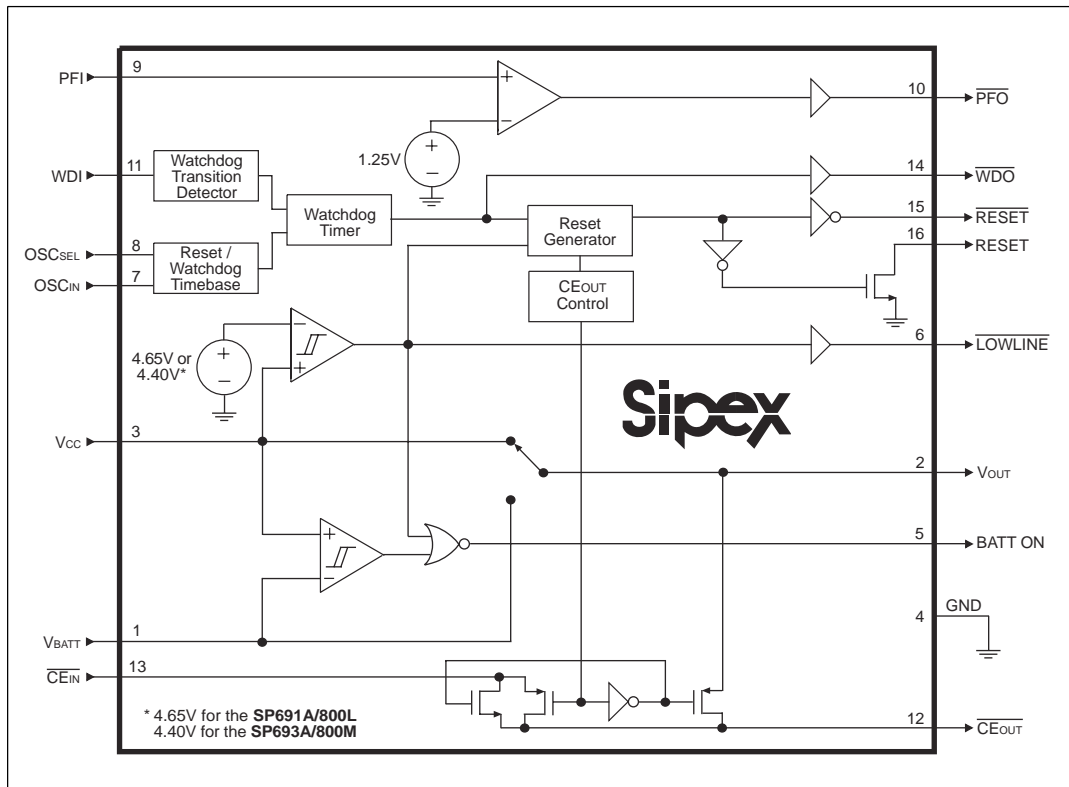

Figure 16. Internal Block Diagram of the SP691A/693A/800L/800M
The **SP691A/693A/800L/800M** devices provide internal gating of chip-enable (CE) signals, to prevent erroneous data from corrupting the CMOS RAM in the event of a power failure. During normal operation, the CE gate is enabled and passes all CE transitions. When reset is asserted, this path becomes disabled, preventing erroneous data from corrupting the CMOS RAM. The **SP691A/693A/800L/800M** devices use a series transmission gate from CEIN to CEOUT. Refer to *Figure 16*.
LOWLINE is the buffered output pin of the reset threshold comparator. Refer to Figure 16. LOWLINE typically sinks 3.2mA at 0.1V. For normal operation where  $V_{\text{CC}}$  is above the reset threshold, LOWLINE is pulled to  $V_{\text{OUT}}$ .